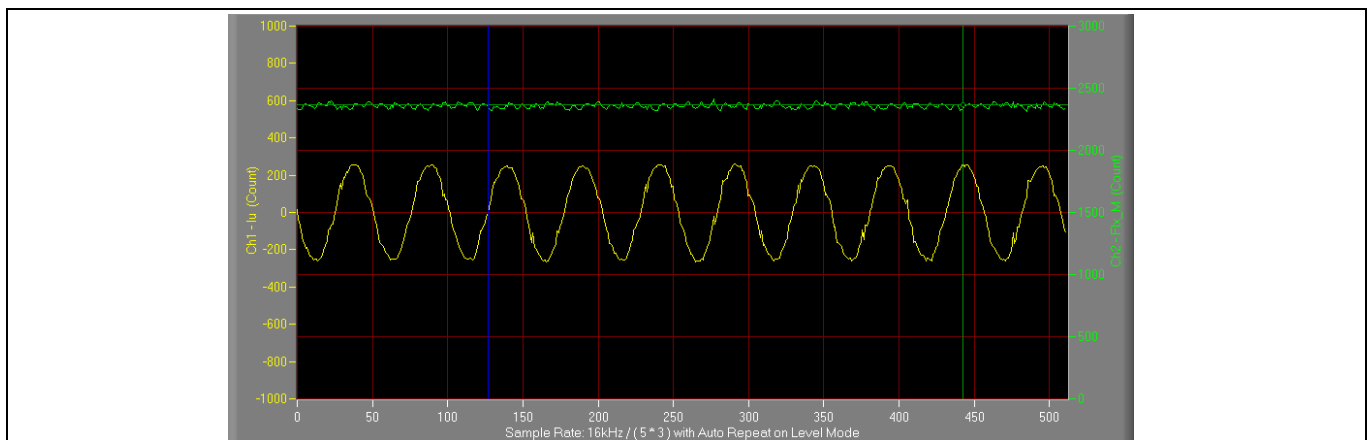

Figure 19 Trace waveform for Iu & Flx-M at 50% speed
3. Set TargetSpeed to about 50% of maximum speed, start "Iu & Flx_M" trace with "Auto Repeat on Level," see Figure 19. Flx_M is good within the range of 2000~2500 (rated value is 2048), and must be steady and DC-like.